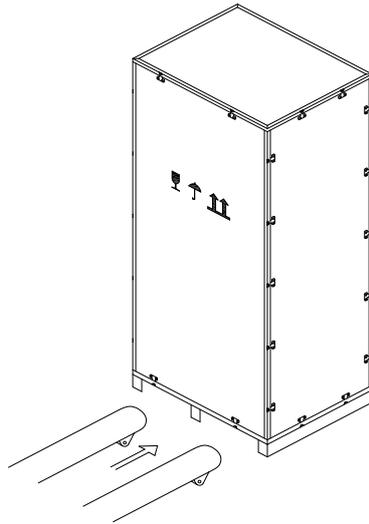

Fig.3-3 Transport to the designated site
2. Transport the equipment to the designated site by forklift, as shown in Fig.3-3.